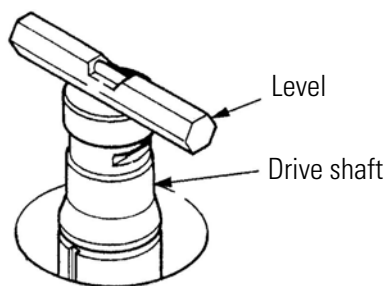

Figure 5-3 Level placement
3. Place the level (part no. 45216) across the top of the drive shaft in the rotor chamber (see Fig. 5-3). Turn the four leveling screws until the bubble in the level indicates the instrument is level.